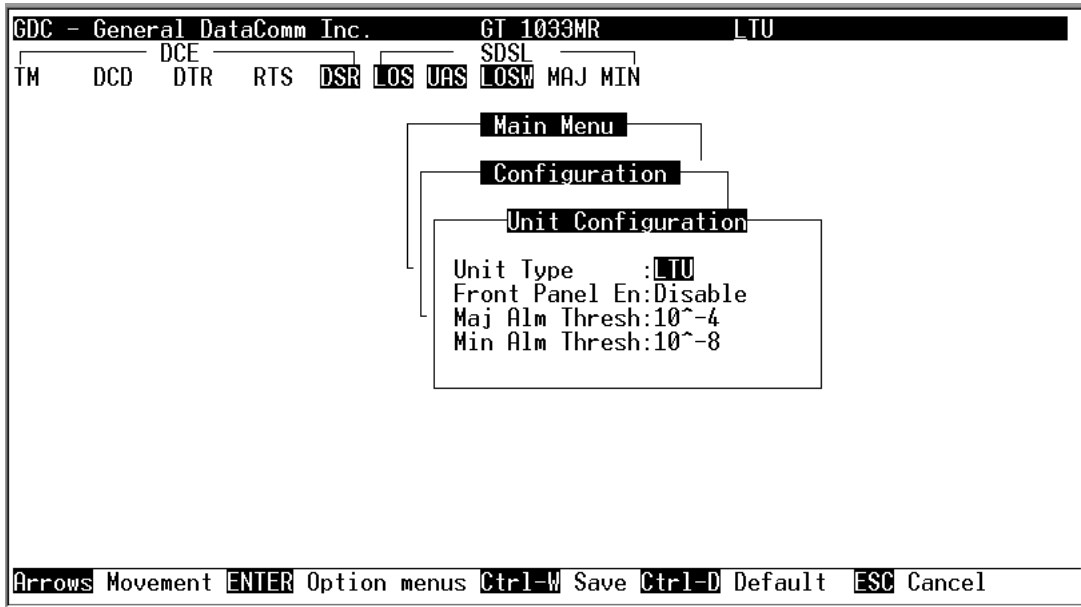

Figure 3-8 Unit Configuration Screen
To display the Unit Configuration screen (refer to Figure 3-8), select item 1 on the Configuration menu. Table 3-9 describes the options available.